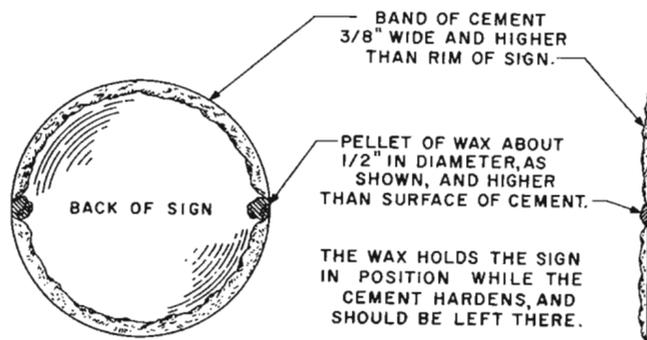

Fig. 4—Method of applying Cement and Wax
2. Apply cement to sign as shown in Fig. 4.